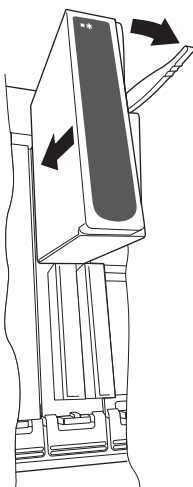

Figure 2.2.3 Module installation
1. Pull the module retaining lever forwards into the unlocked position as shown in figure 2.2.3.
1. Pull the module retaining lever forwards into the unlocked position as shown in figure 2.2.3